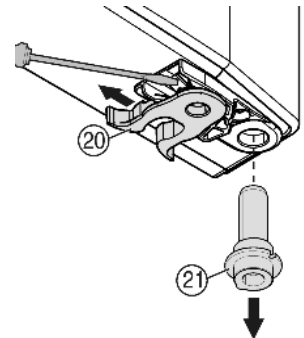

Fig. 9
- ▶ Transfer the spring clamp Fig. 9 (20): Depress the latch nose and pull the spring clamp off over it.
- ▶ Pull the bearing pin Fig. 9 (21) out of the door bush and transfer it to the opposite side together with the washer. The latch nose must point to the inner side of the door, the notch to the outer side.
- ▶ Swing the door in at the bottom and insert the bearing pin Fig. 9 (21) into the turn hinge. If necessary, turn the bearing pin until it snaps into place.